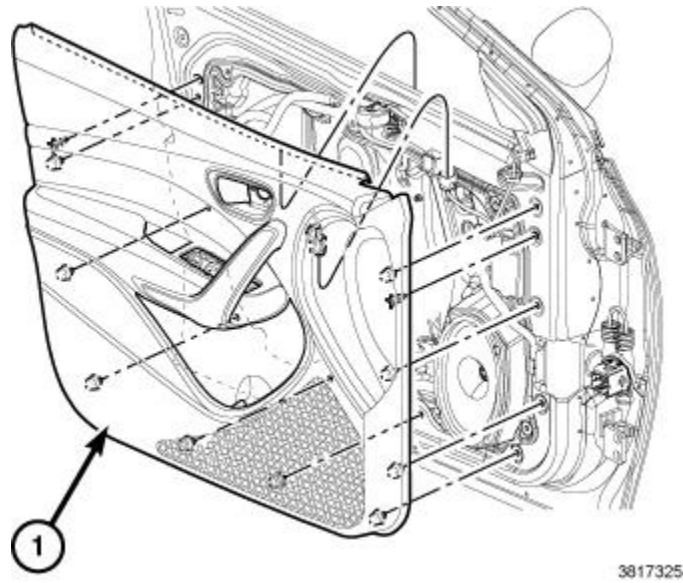

Fig. 4 Door Trim Panel Removal
8. Using C-4755 or equivalent, pry the door trim panel (1) away, starting along the lower edge and working around the perimeter to disengage the retaining clips (Fig. 4).
9. Lift the door trim panel (1) up and out while also guiding the trim panel forward to clear the door latch release lever. Position the door trim panel slightly away, do not remove (Fig. 4).
10. Disconnect electrical connectors from the door trim panel and remove the door trim panel (1) from the door (Fig. 4).
11. Once the door trim panel is removed, reconnect the window switch in order to move the door glass up/down for positioning (Fig. 4).